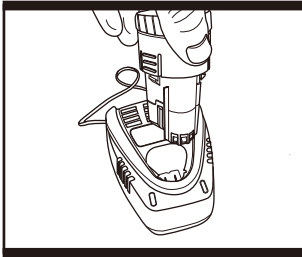

Fig. 1
1. TO CHARGE THE BATTERY PACK (Fig. 1 & 2)